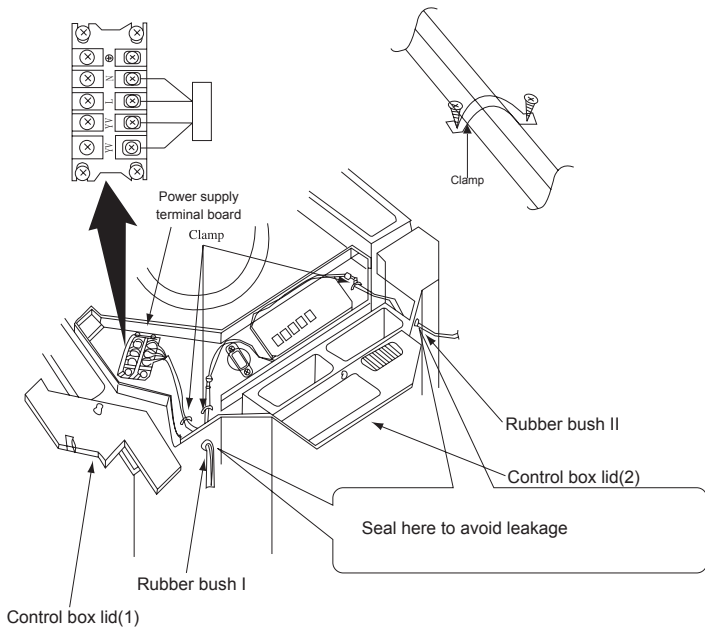

Fig.25
The electric wiring of the valve should be according with the Fig.25
1) Remove the control box lid (1). Pull the wires inside through rubber bush I and wiring according to the " WIRING DIAGRAM ", then tighten it with clamp.After wiring, tighten it with clamp and fix the control box lid(1).(2) (as Fig.25~26).